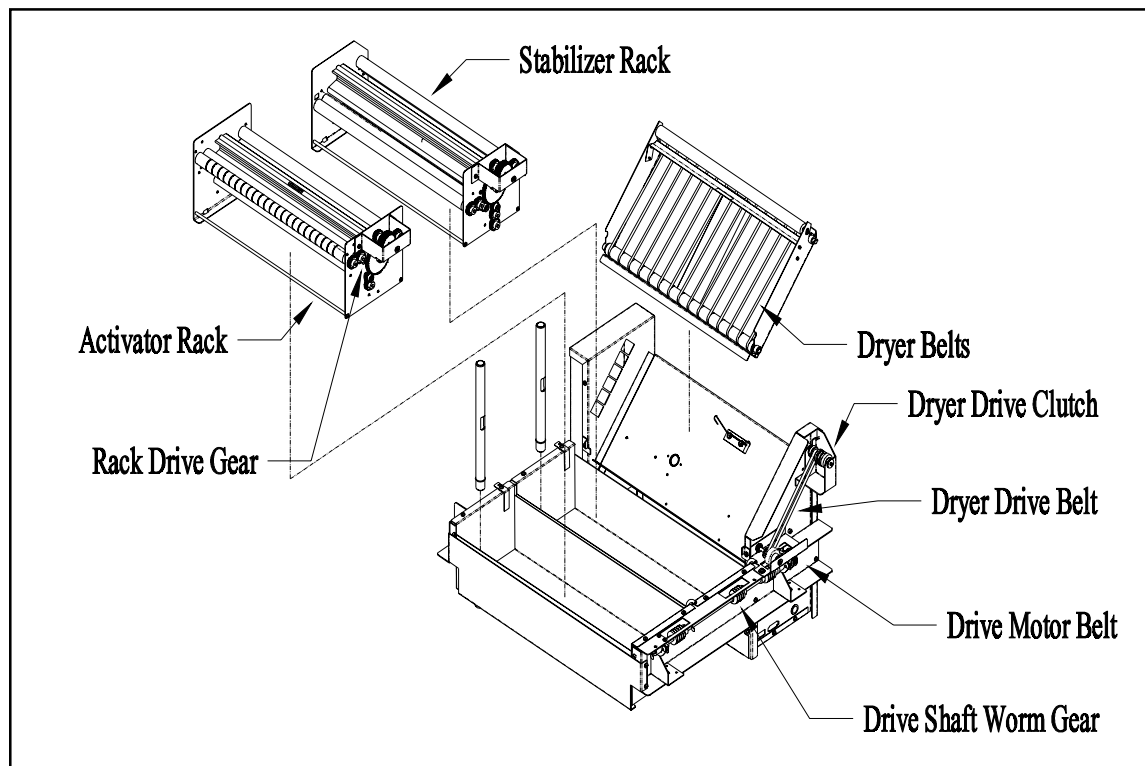

Figure S2-3 View of the Processor
1. Open the top cover. (See Figure S2-3 and S2-4). Inspect all gears and bearings for wear.